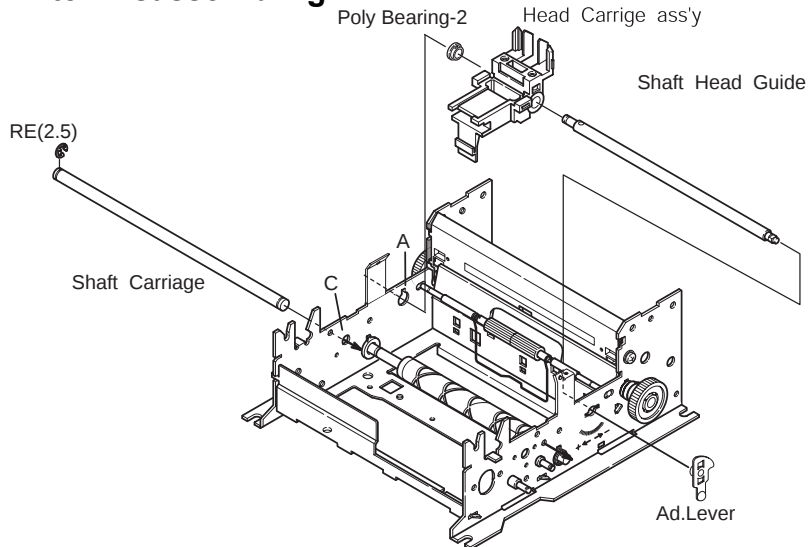

Figure 4-7. Separating Head Feed Block-1
16. Disassemble the E-Ring (R2.5) and remove the Shaft Carriage through the hole "C" in the Frame Assembly (Figure4-7).
17. Remove the Poly Bearing-2 in hole "A" in the shaft head Guide(Figure4-7)
18. Move the Shaft Head Guide through the Head Carriage Assembly the hole "A" in the Frame Assembly(Figure4-7)